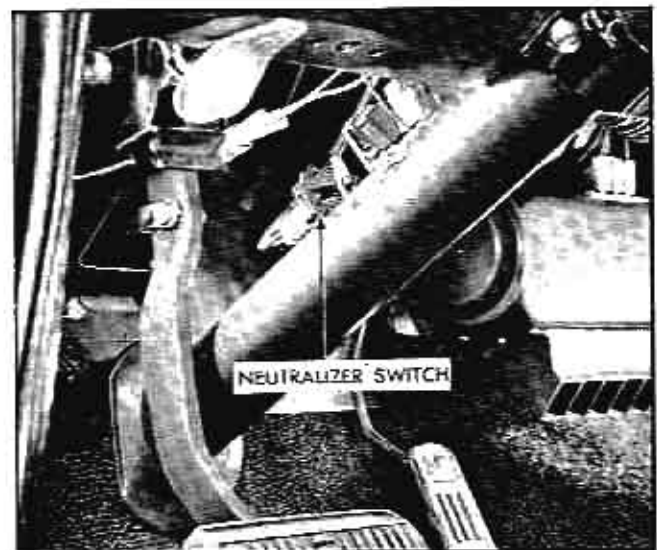

Fig. 43 Neutralizer Switch
2. Loosen switch mounting screw (Fig. 43).